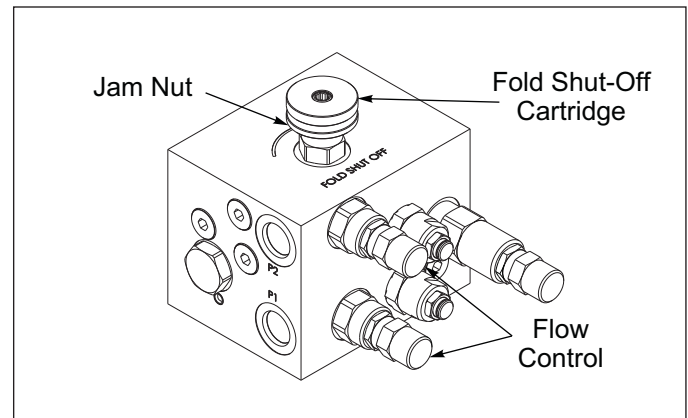

**Figure 3-9: Trailer Transport Lock - Stored**
1. Remove the short (9" long) Transport Lock from under the Wing Support. **See Figure 3-9.**